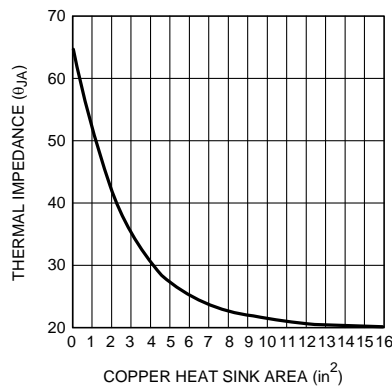

Figure 30. Thermal Resistance for 5-lead TO–263 Package Mounted on 1oz. Copper
The TO-263 package has excellent thermal characteristics. To minimize thermal impedance, its exposed die attach paddle should be soldered to a circuit board copper area for good heat dissipation. Figure 30 shows typical thermal resistance from junction to ambient as a function of the copper area. The TO-263's exposed die attach paddle is electrically connected to the V_{EE} power supply pin.
If a heat conductive copper plane has perfect thermal conduction (heat spreading) through the plane's total area, the temperature rise is inversely proportional to the total exposed area. PCB copper planes are, in that sense, an aid to convection. These planes, however, are not thick enough to ensure perfect heat conduction. Therefore, eventually a point of diminishing returns is reached where increasing copper area offers no additional heat conduction to the surrounding air. This is apparent in Figure 30 as the thermal resistance reaches an asymptote above a copper area of 8in². As can be seen, increasing the copper area produces decreasing improvements in thermal resistance. This occurs, roughly, at 4in² of 1 oz copper board. Some improvement continues until about 16in². Boards using 2 oz copper boards will have decrease thermal resistance providing a better heat sink compared to 1 oz. copper. Beyond 1oz or 2oz copper plane areas, external heat sinks are required. Ultimately, the 1oz copper area attains a nominal value of 20°C/W junction to ambient thermal resistance (θ_{JA}) under zero air flow.
5. θ_{JA} as a function of copper area in square inches is shown in Figure 30. Choose a copper area that will ensure the specified $T_{J(MAX)}$ for the calculated θ_{JA} . The maximum value of junction to ambient thermal resistance, θ_{JA} , is defined as:
4. Finally, choose the minimum value of copper area from Figure 30 based on the value for θ_{JA} .